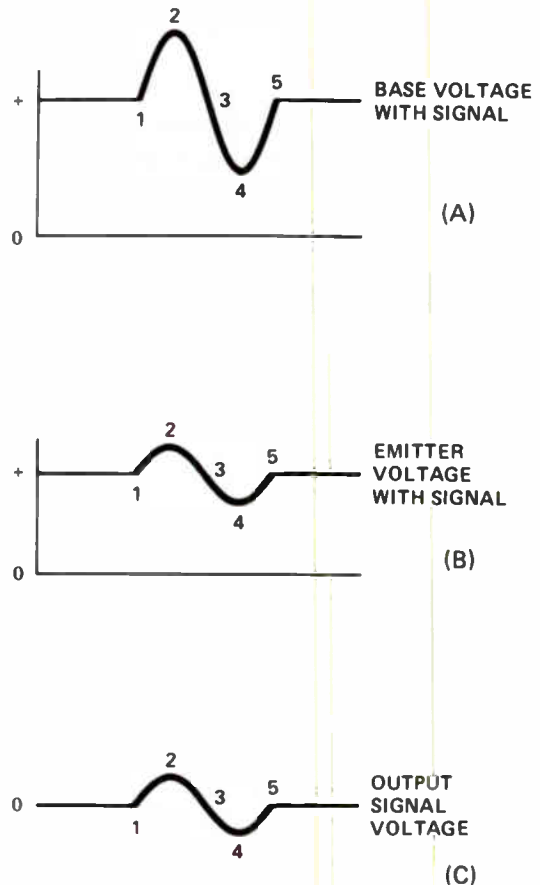

Figure 17. Waveforms for circuit shown in Fig.16.
With zero input signal, the base and emitter voltages are constant. This is represented in Fig.17 by the straight, horizontal line up to point 1 in Figs.17(A) and (B). When a signal is applied between the base and ground during the positive half-cycle, the base voltage starting at point 1 increases to point 2, then returns to zero signal level at point 3. The increase in forward bias across the emitter-base junction causes the emitter current to increase so that the emitter voltage swings from point 1 to point 2 and then back to point 3 as shown in Fig.17(B).
During the negative half-cycle, as the base voltage swings in a negative direction from point 3 to point 4 and then back to point 5, as shown in Fig.17(A), the emitter voltage also swings in a negative direction. This is because the current through the transistor decreases due to the decreased forward bias across the emitter-base junction. As a result, the current through R2 decreases so that the voltage between the emitter of the transistor and ground goes from point 3 to point 4 and then back to point 5 as shown in Fig.17(B).
The output signal voltage taken between the output terminals is shown in Fig.17(C). Notice that this voltage is zero with zero signal input and then follows the emitter voltage as the signal goes through its cycle. This happens because the reactance of C2 is so low at the signal frequency that, as far as the signal is concerned, it is simply not there. However, C2 does block the dc voltage at the emitter of the transistor and prevents the output from shorting out R2.
From the waveforms in Fig.17 we see that the output voltage is originally less than the input voltage. We say that the common-collector cir-